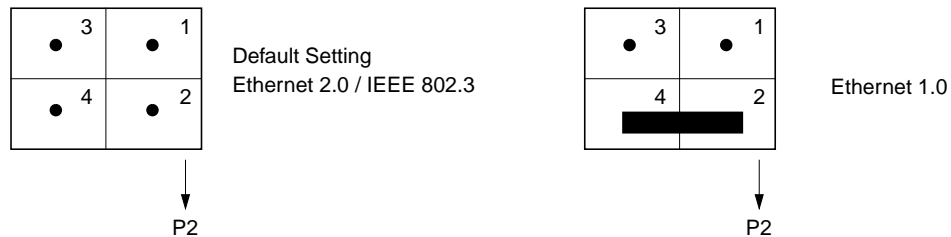

Figure 1-3 JP2 on Mother Board: Ethernet Version
- Figure 1-3** JP2 on Mother Board: Ethernet Version1-5
Jumper block JP2 (illustrated in Figure 1-3) selects the Ethernet version (1 or 2).
The Silicon Graphics factory (default) setting, as illustrated in Figure 1-3, is for Ethernet 2.0 / IEEE 802.3. Change this setting only if the attached Ethernet is version 1.0.